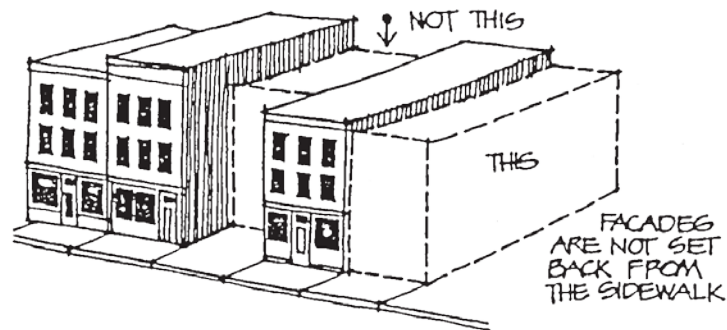

Figure-2
B. Siting - Maintain existing predominant building setbacks. (See Figure-2) Place parking areas so as not to be the focal point of the building.